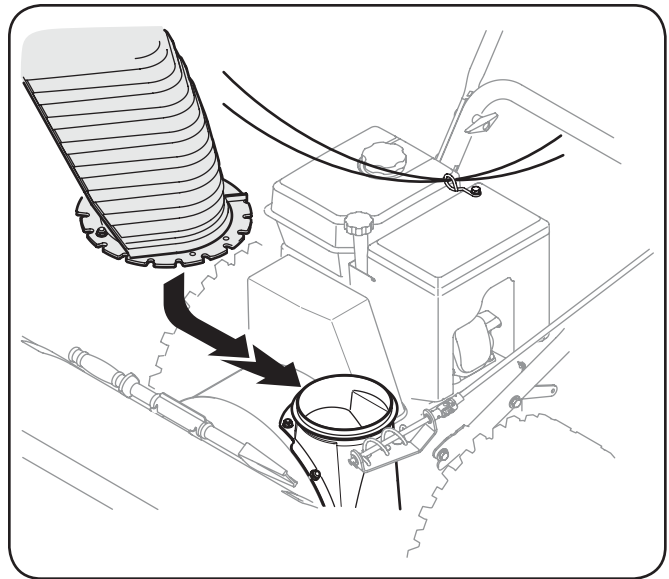

Figure 3-6
2. Place chute assembly onto chute base as shown in Fig. 3-6. Make sure that the chute notches engage with the spiral end of chute directional control, and the two flange keepers are beneath the flange on the chute base.
5. Check that the chute cables are properly routed through the cable guide attached to the lower handle assembly. See Fig. 3-6.